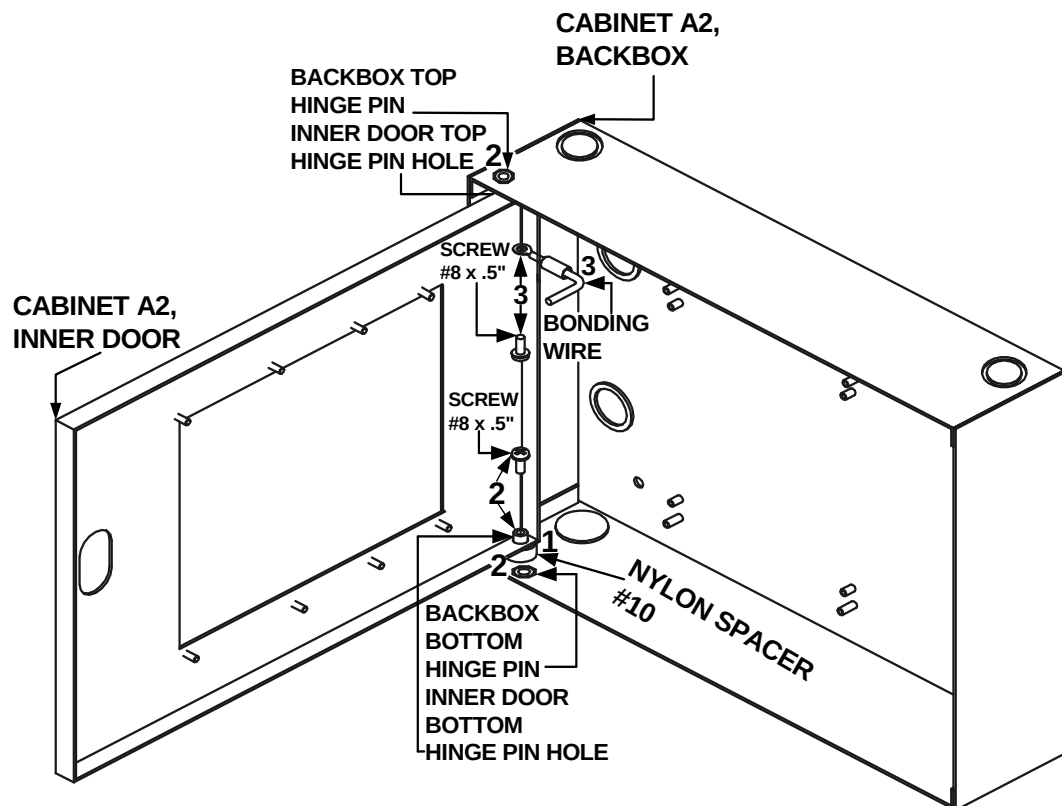

Figure 2.5.2.4.1 Cabinet A2, Inner Door to the Backbox Installation
**NOTE:** For information on the installation of the opposite end of the bonding wire, see Section 2.5.2.5, Step 2, Location 2 of Figure 2.5.2.5.1.